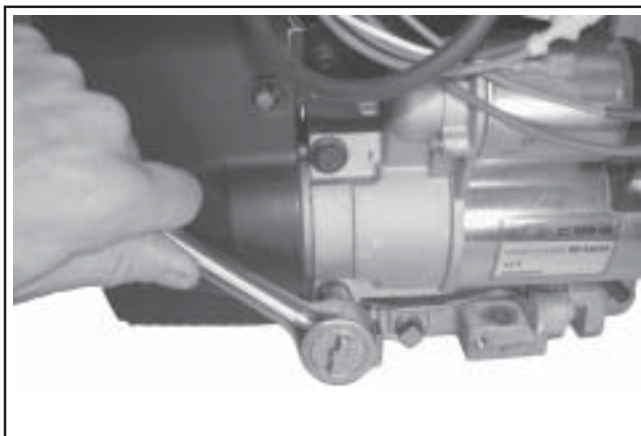

Figure 9-30. Removing Electric Starter Motor.
2. Remove the two hex flange screws. See Figure 9-30.